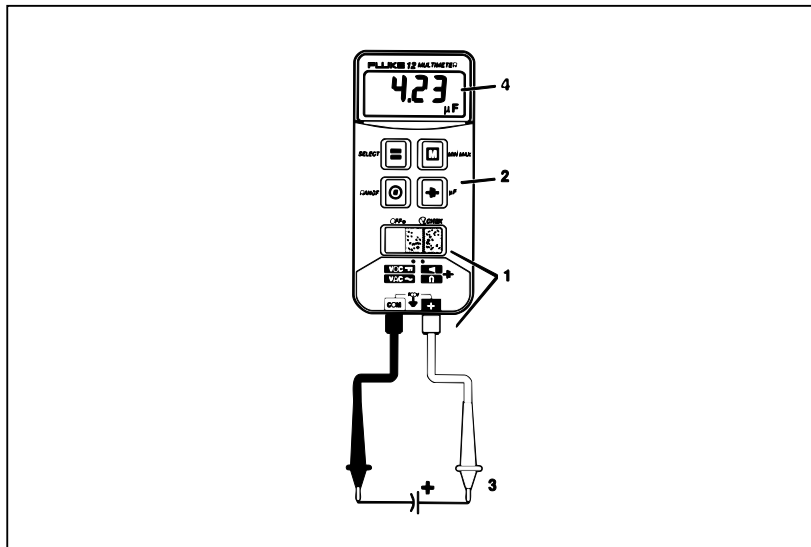

Figure 6. Measuring Capacitance
1. Insert test leads, and move the slide-switch to [⇄]. (See Figure 6.)